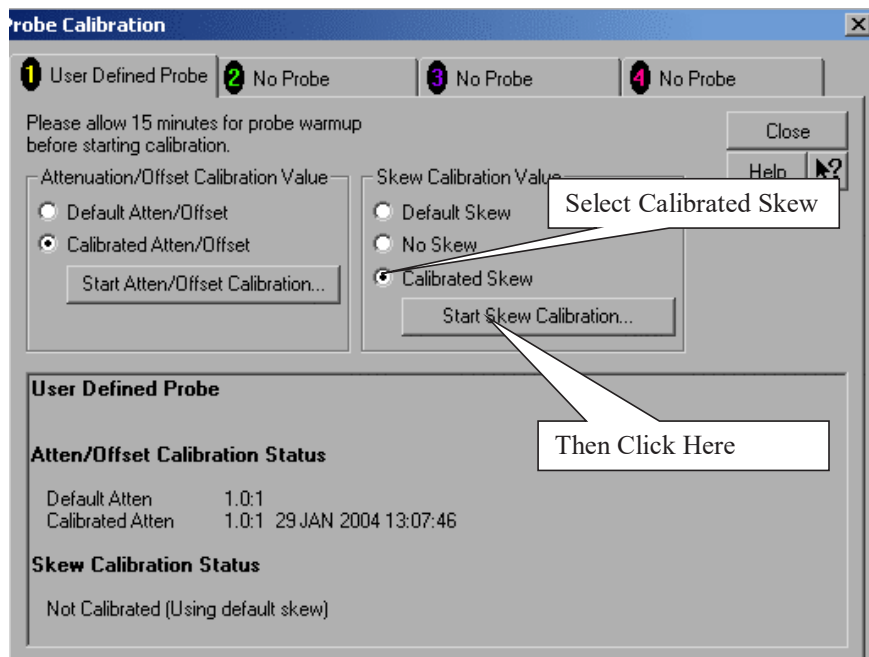

Figure 14 Probe Calibration Window.
- 8 Referring to Figure 14 below, perform the following steps: